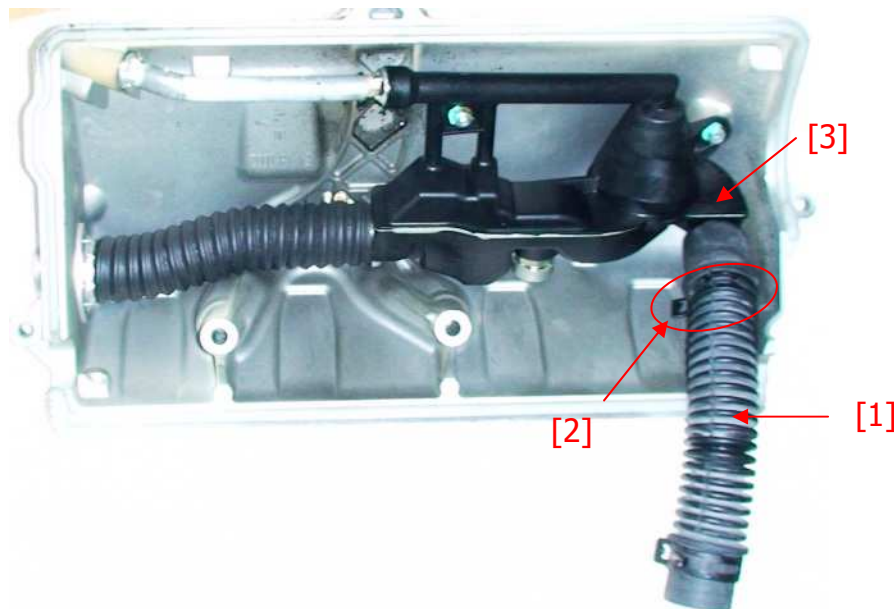

Figure 1: oil separator assembly
2. Disassemble the oil separator hose [1] from the oil separator assembly (see Figure 1) by removing the hose clamp [2] with the tool shown under chapter 3.2. Then pull-off the oil separator hose [1] from the oil separator [3] by using adequate tools.